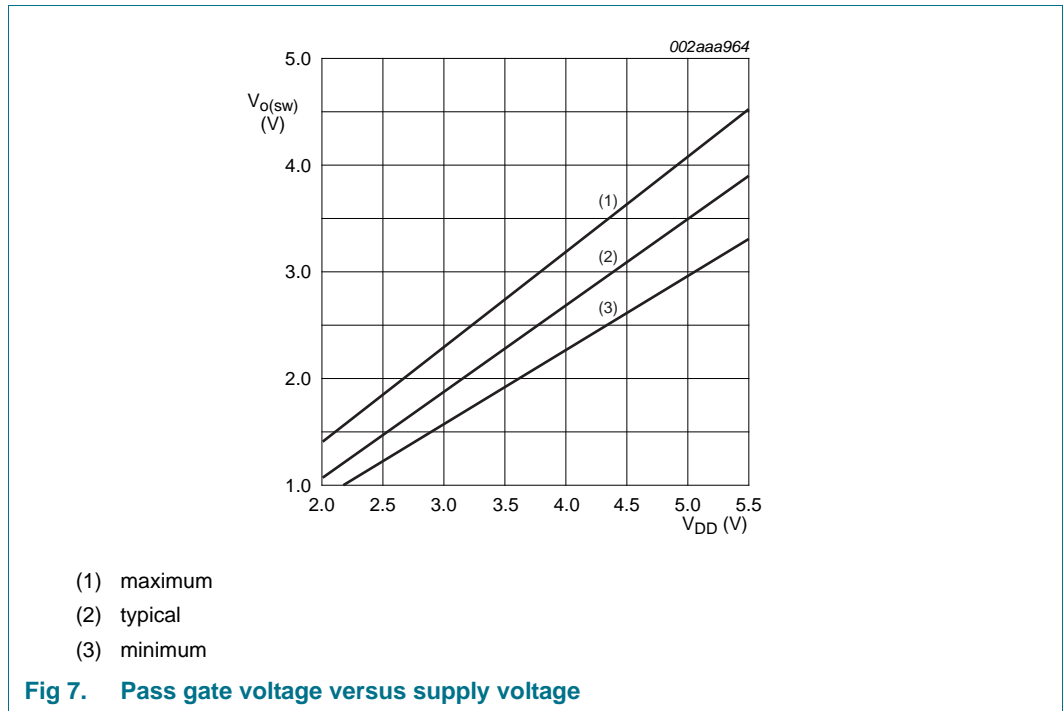
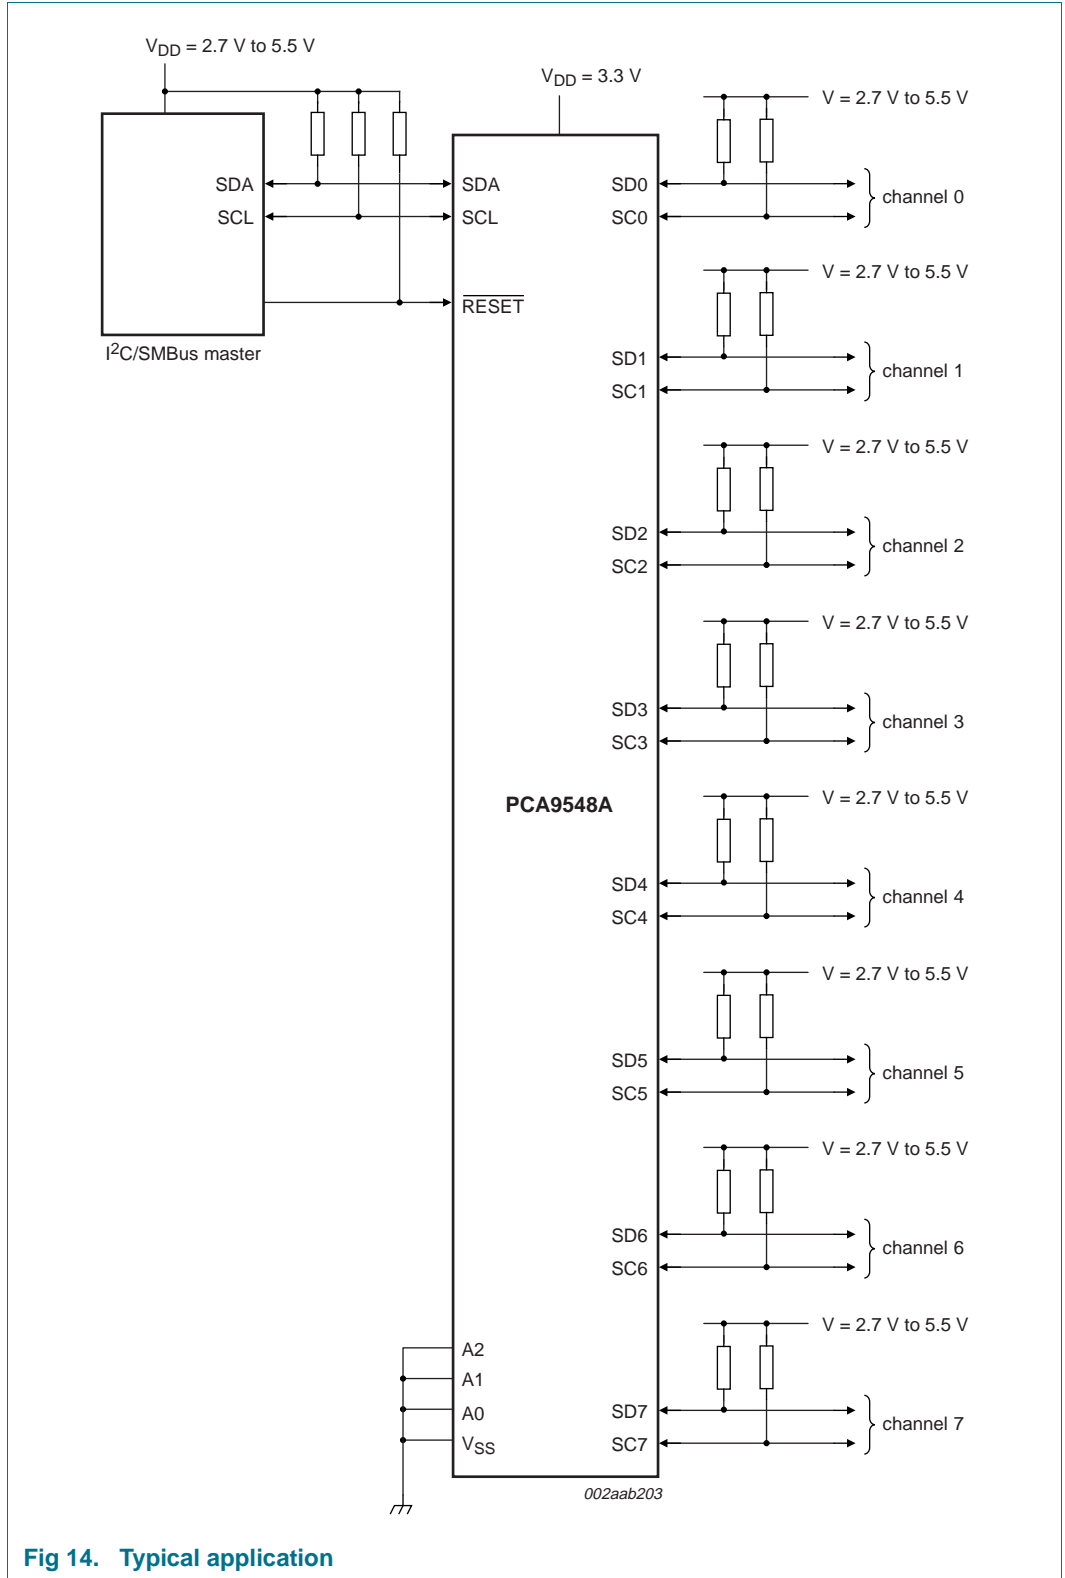

Fig 7. Pass gate voltage versus supply voltage
Fig 14. Typical application
Figure 7 shows the voltage characteristics of the pass gate transistors (note that the PCA9548A is only tested at the points specified in Section 11 “Static characteristics” of this data sheet). In order for the PCA9548A to act as a voltage translator, the VO(SW) voltage should be equal to, or lower than the lowest bus voltage. For example, if the main bus was running at 5 V, and the downstream buses were 3.3 V and 2.7 V, then VO(SW) should be equal to or below 2.7 V to effectively clamp the downstream bus voltages. Looking at Figure 7, we see that VO(SW)(max) will be at 2.7 V when the PCA9548A supply voltage is 3.5 V or lower, so the PCA9548A supply voltage could be set to 3.3 V. Pull-up resistors can then be used to bring the bus voltages to their appropriate levels (see Figure 14).